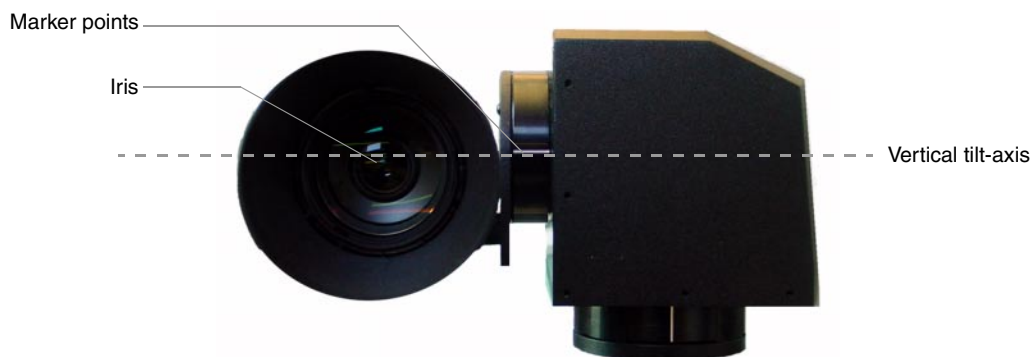

FIG. 9 Iris alignment with vertical tilt-axis
8. Take the entire camera/cradle assembly and align the lens with the Tilt Hub, so the vertical-axis intersects the center of the camera's iris, as shown in FIG. 9.